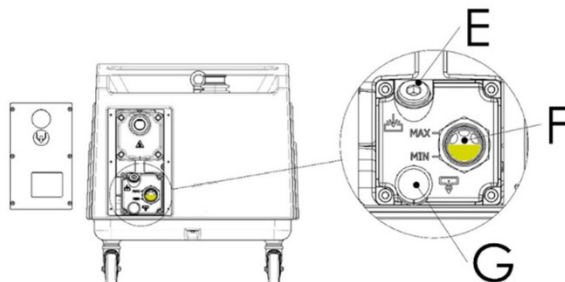
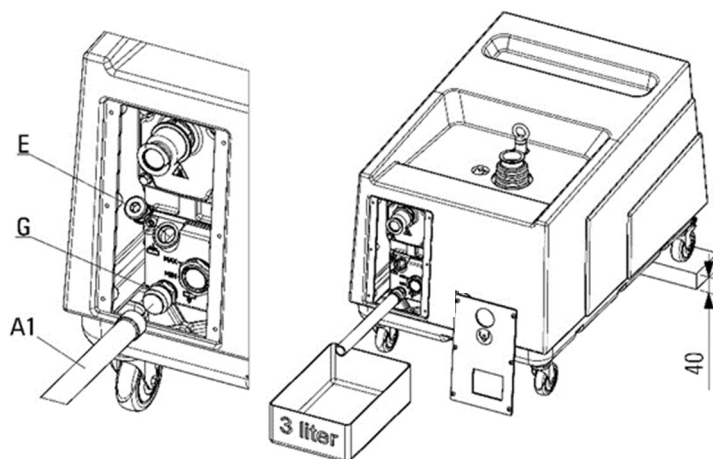

Figure 64
Figure 65
Please refer to Figure 64. Unscrew the oil filling plug (E) and the discharge plug (G) only after having placed underneath the pump tank a suitable container suitable container (see Figure 65 proper size and shape) for collecting the total quantity of oil.